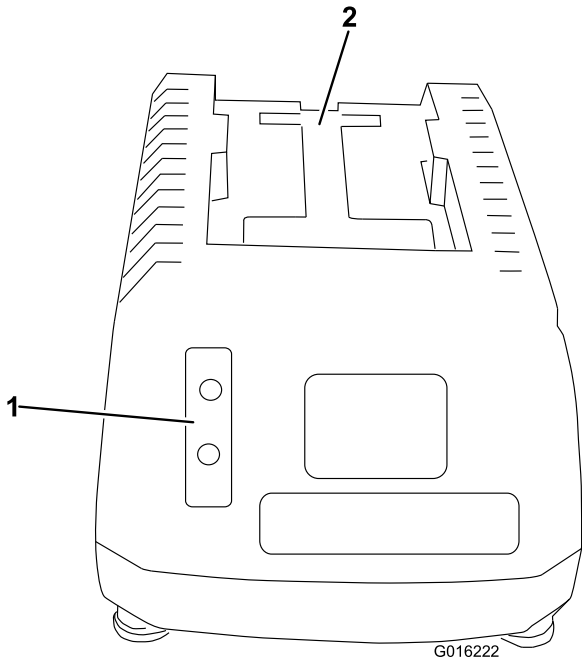
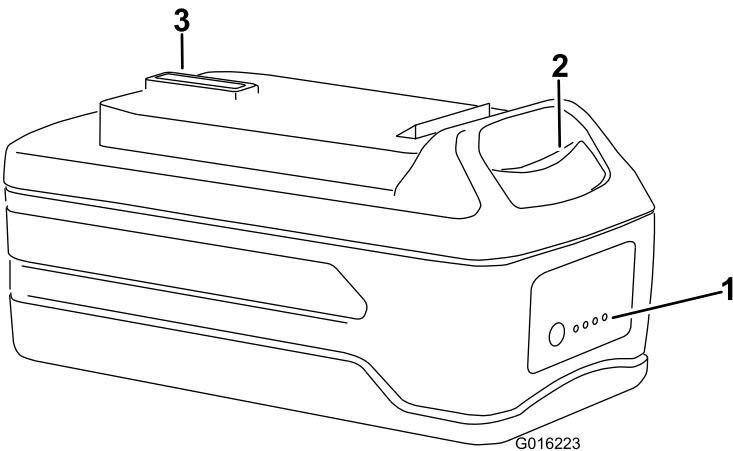

Figure 4
Figure 5
- 1. Turn the battery upside down and line up the battery terminal with the slot in the charger (Figure 4 and Figure 5).